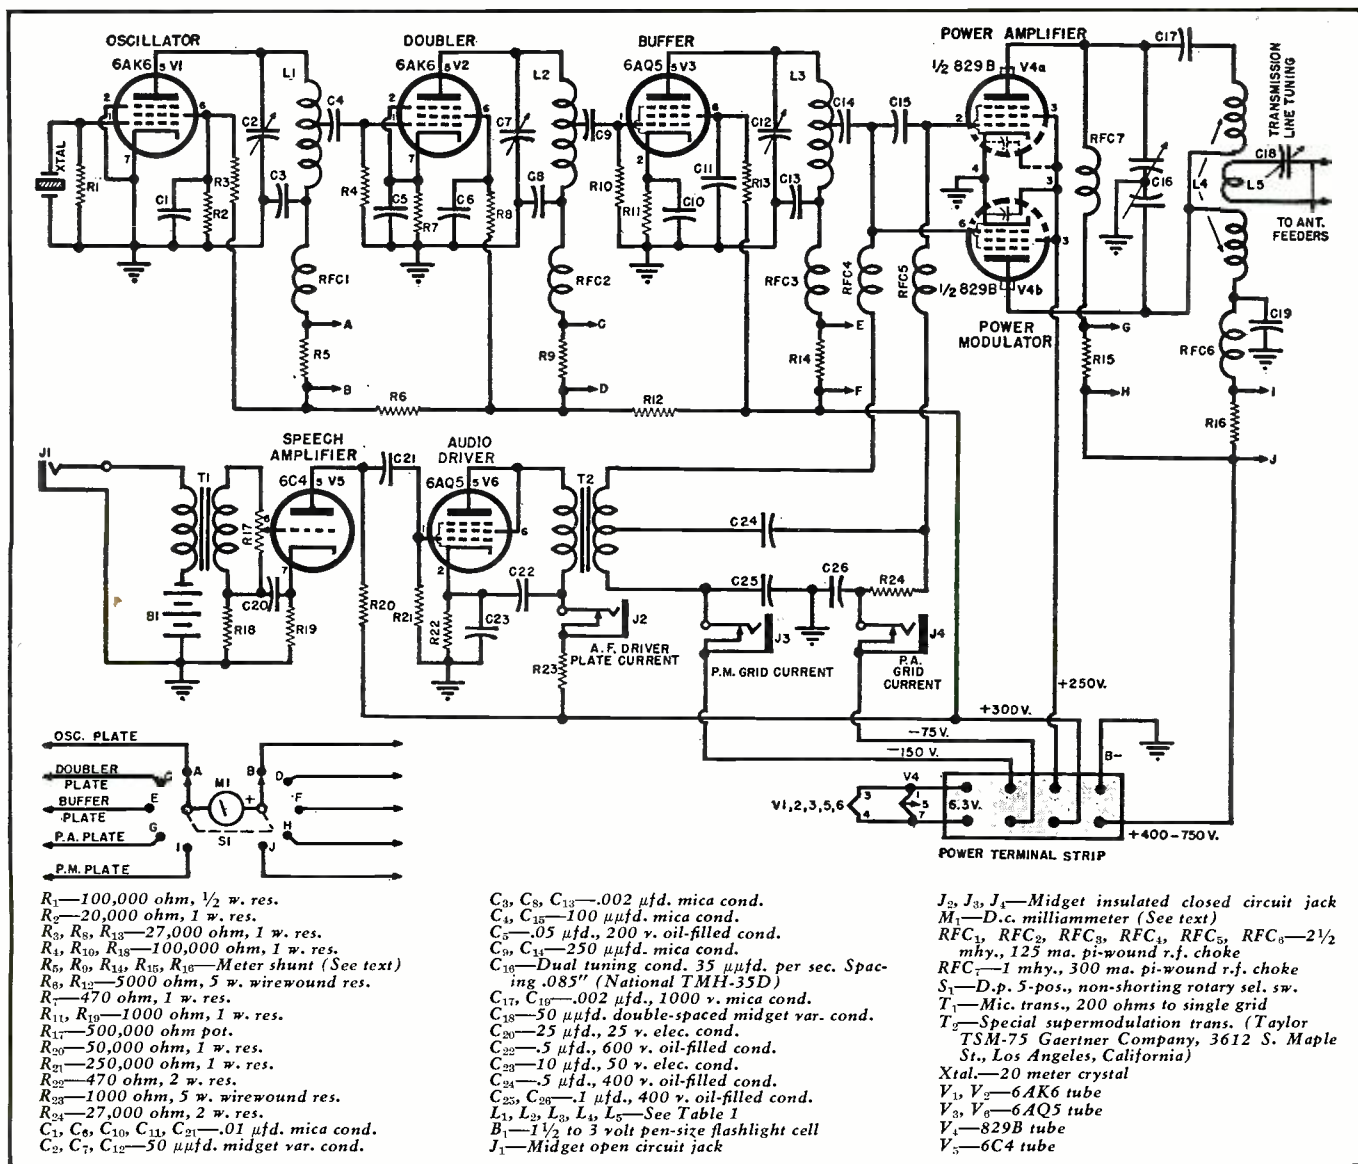

Fig. 3. Complete circuit diagram and parts list covering the 829B supermodulated transmitter.
The complete circuit schematic is given in Fig. 3. Up to the output of
value of screen voltage (250), two values of grid bias voltage (-75 and -150 for 75 watts input) and (-50 and -75 for 40 watts input), and 6.3 volt tube heater voltage must be supplied, as indicated on the appropriate terminal strip connections in Fig. 3. The plate and screen voltages may be derived from a single high-voltage power supply through a voltage divider. However, some means must be provided for reducing the final amplifier plate voltage during tune-up operations. This is very essential, since it is difficult to adjust the final amplifier properly while employing high plate voltage.